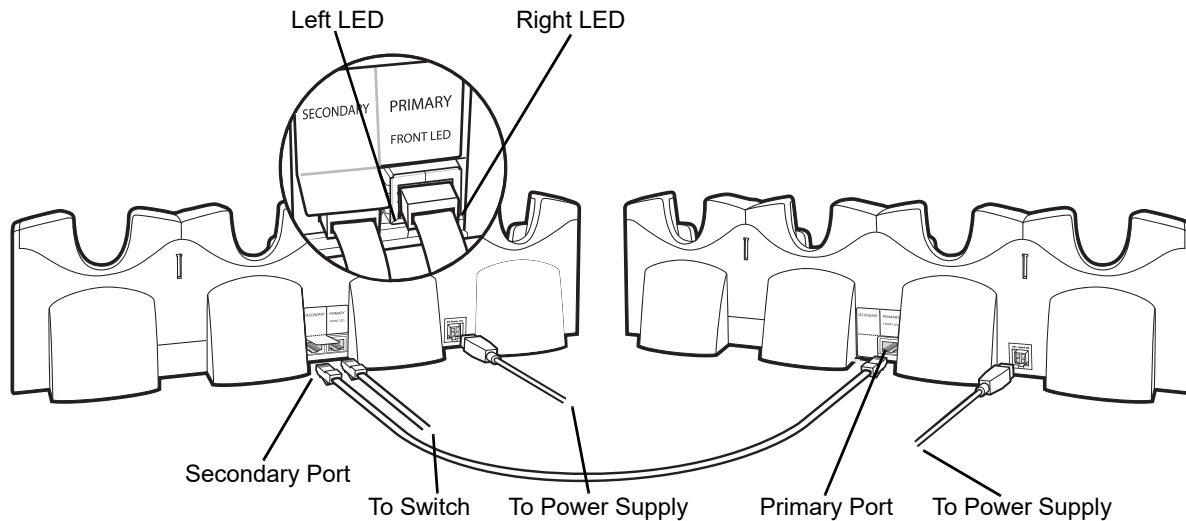

Figure 2-11 *Daisy chaining Four Slot Ethernet Cradles*
3. On the first Four Slot Ethernet cradle, lift or remove the label flap and connect a second Ethernet cable to the Secondary Port. See Figure 2-11.